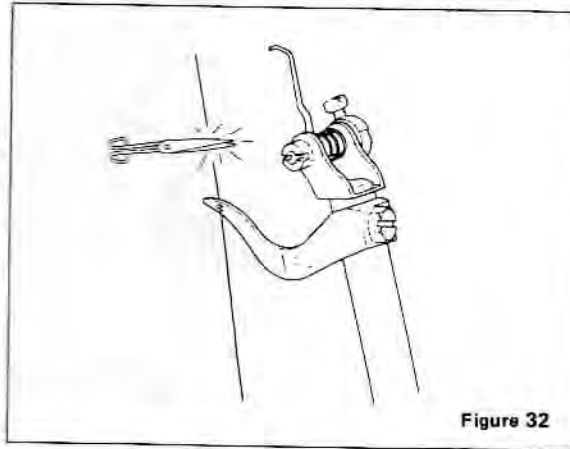
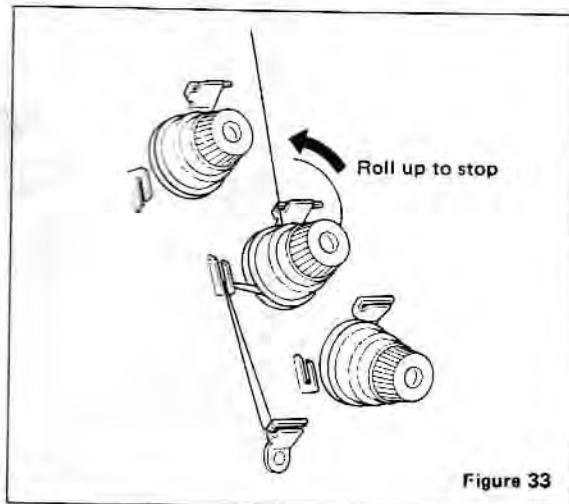

Figure 32
Figure 33
3. Cut upper looper thread (Figure 32). Either remove cut thread from all pink thread guides and tension dial completely, or roll the thread back and around the upper looper tension dial (Figure 33).